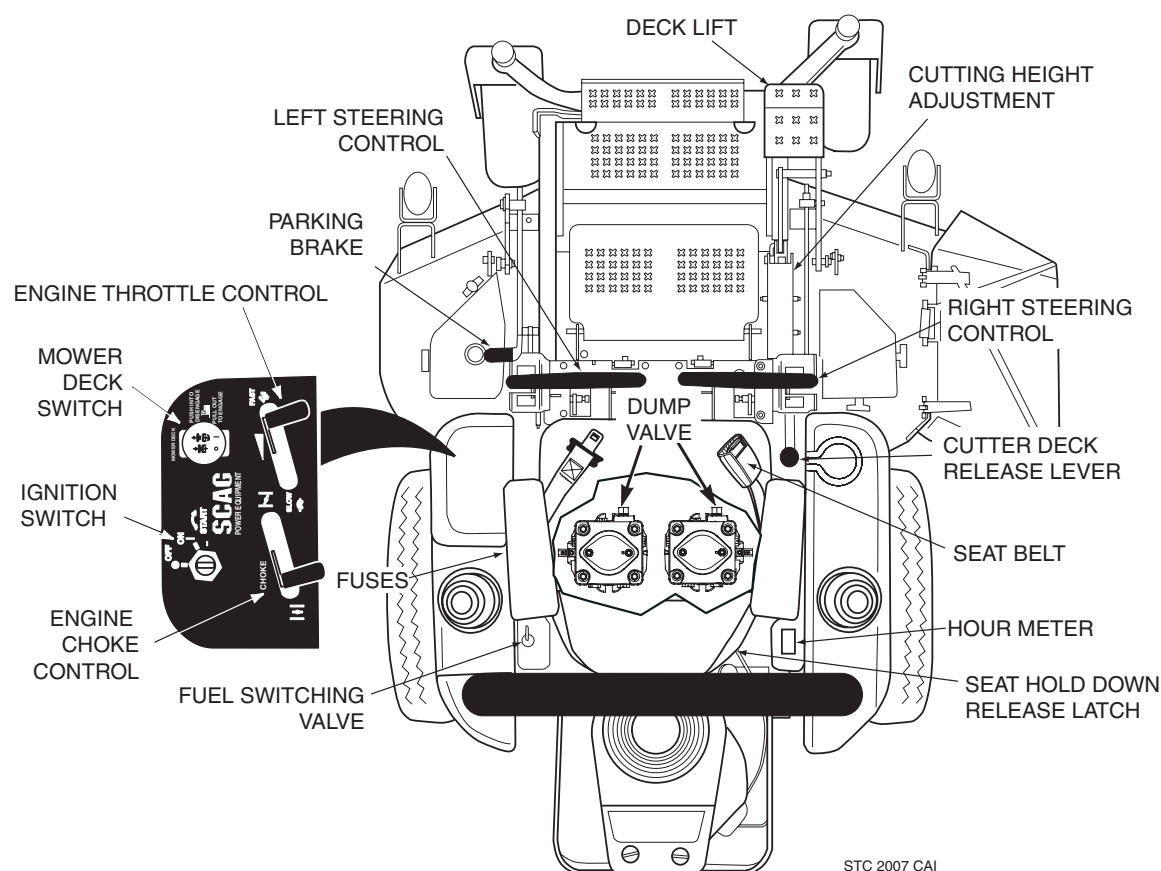

Figure 4-1. Controls and Instruments
1. **Ignition Switch (Figure 4-1).** The ignition switch is used to start the engine and has three positions; OFF, ON, and START.
2. **Mower Deck Switch (Figure 4-1).** Used to engage and disengage the mower drive system. Pulling up on the switch will engage the deck drive. Pushing down on the switch will disengage the deck drive.
3. **Engine Choke Control (Figure 4-1).** Used to start a cold engine.
4. **Engine Throttle Control (Figure 4-1).** Used to control the engine speed. Pushing the lever forward increases engine speed. Pulling the lever back decreases engine speed. Full back position is the IDLE position. Full forward is the cutting position.
5. **Hourmeter (Figure 4-1).** Indicates the number of hours the engine has been operated. It only operates when the engine is running. Has preset maintenance reminders for engine and hydraulic system oil changes. Will start flashing scheduled maintenance 2 hours before preset time and continue flashing until 2 hours after. Automatically resets.
6. **Fuse Holders (Figure 4-1).** Two 20-amp fuses protect the mower's electrical system. To replace fuses, pull fuse out of the socket and install a new fuse.
7. **Left Steering Control (Figure 4-1).** Used to control the mower's left wheel when traveling forward or reverse.
8. **Right Steering Control (Figure 4-1).** Used to control the mower's right wheel when traveling forward or reverse.
9. **Parking Brake Control (Figure 4-1).** Used to engage and disengage the parking brakes. Pull the lever back to engage the parking brakes. Push the lever forward to disengage the parking brakes.
10. **Fuel Switching Valve (Figure 4-1).** Located on the left side of the machine. Used to shut off fuel supply to the engine and change fuel supply between the fuel tanks. Rotate the valve counter clockwise to supply fuel from the tank on the left side only. Rotate the valve clockwise to supply fuel from the tank on the right side only.
12. **Deck Lift Foot Lever (Figure 4-1).** Used to raise and lower the cutter deck. Push full forward to lock in the transport position.
13. **Cutting Height Adjustment (Figure 4-1).** Used to set the cutter deck at the desired cutting height.
14. **Deck Release Lever (Figure 4-1).** Used to lock the cutter deck in the transport position. Push the foot pedal forward and pull back on the release lever to release the cutter deck for normal mowing.
15. **Seat Belt (Figure 4-1).** Used to secure the operator. Seat belt must be worn at all times when the ROPS is in the upright and locked position.
16. **Seat Hold Down Release Latch (Figure 4-1).** Located behind the seat. Used to secure the seat in the operator's position. Release the latch to gain access under the seat.
Do not travel forward over a curb. The mower will hang up on the curb. Raise the deck and travel backwards over the curb at a 45 degree angle. (See Figure 4-1 items 12-14 for cutter deck raising description.)